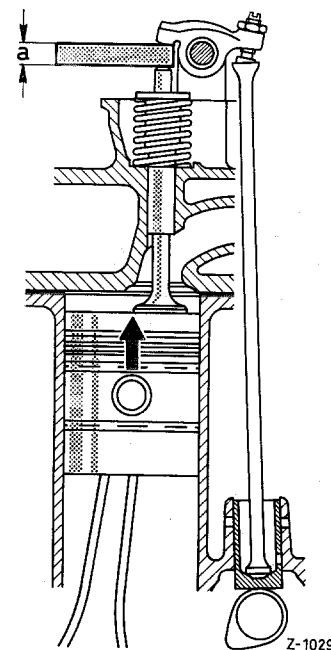

Fig. 00-6/15
4. Use valve lifter to press inlet valve downwards and insert a feeler gauge of a given thickness (a) between valve stem and rocker arm (see Figure 00-6/15).